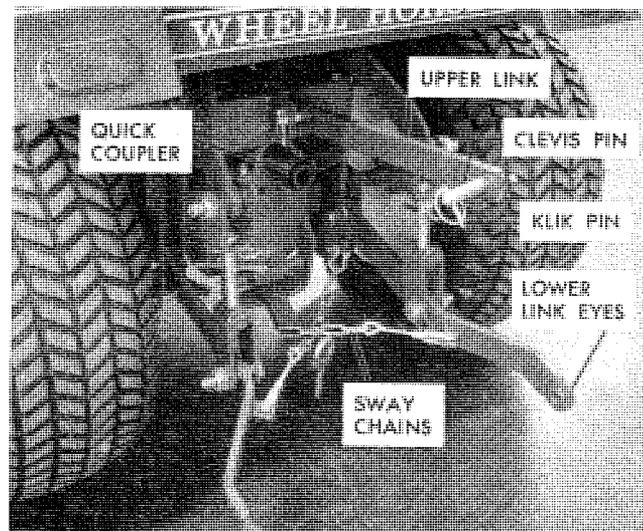

FIGURE 2
2. Install 3 Point Hitch sway chains as shown in Fig. 2. Do not tighten at this time.